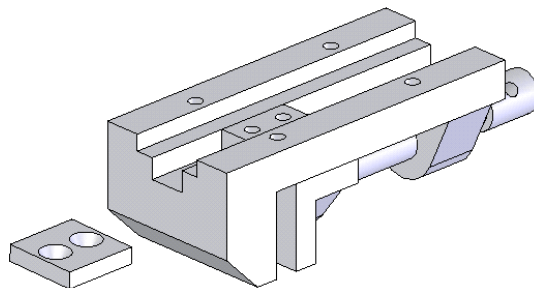

Figure 10-68 Clamping Plate after rotating
3. Select the Clamping Plate using the right mouse button and drag the cursor to rotate the Clamping Plate as shown in Figure 10-68.